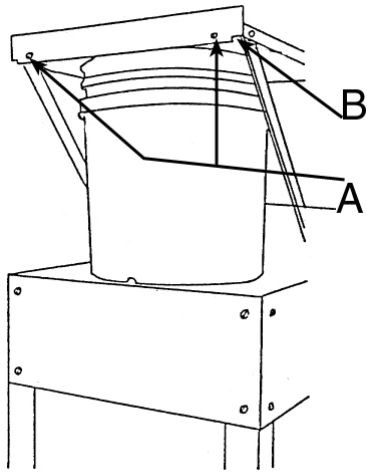

Figure 1. Removing the lid seal
Approximately every 12 months the CAL provides each site with a new foam lid seal and instructions for its installation (Figure 1). This replacement further limits contamination and helps ensure a tight lid-to-bucket seal. To change the lid seal, use a medium-sized straight blade screwdriver and follow these steps:
2. Next, remove the two screws labeled A on Figure 1 and the L-retainers they hold in place. These retainers, labeled B, hold the foam lid seal in place. After removing the L-retainers, the old seal will simply drop out. Be careful not to lose the screws.